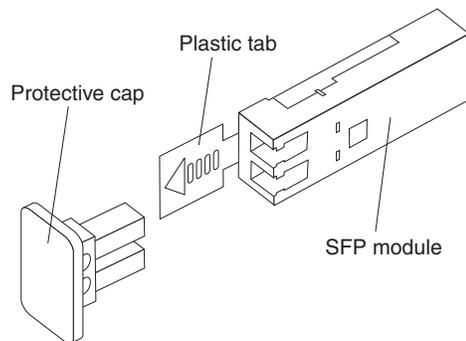

Figure 20. SFP module and protective cap
2. Remove the protective cap from the SFP module, as shown in Figure 20. Save the protective cap for future use.
2. If necessary, remove the protective cap from the SFP module, as shown in Figure 20 on page 29. Save the protective cap for future use.